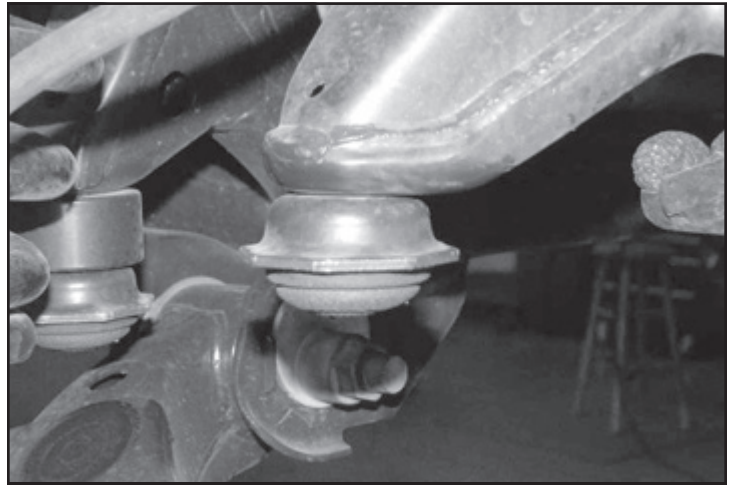

FIGURE 20
13. Locate the four factory compression bump stops and remove and save. **SEE FIGURE 20**